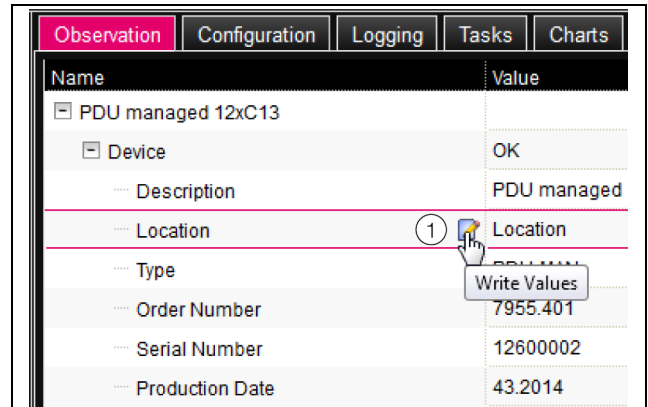

Fig. 30: Editable parameter with "Edit" symbol
For all parameters that can be changed, an "Edit" symbol in the form of a stylised notepad and pen will appear after the respective parameter if the mouse pointer is placed in the relevant line (fig. 30, item 1).